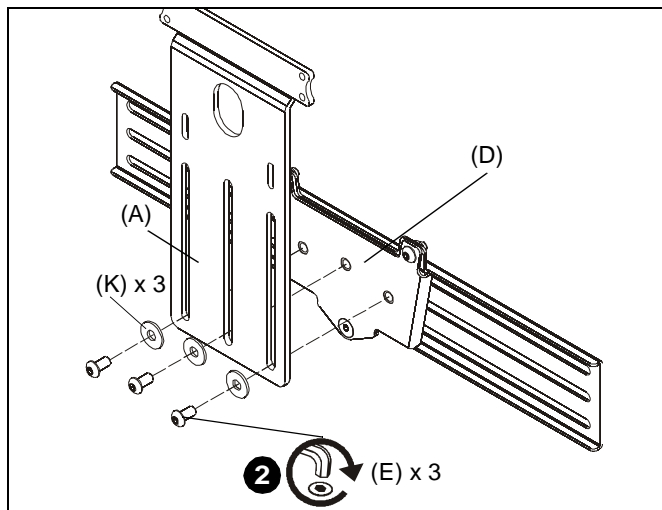

Figure 2
2. Use three 1/4-20 x 3/8" button head cap screws (E) and three 1/4" washers (K) to secure attachment bracket (A) to short extension bracket (D). (See Figure 2)